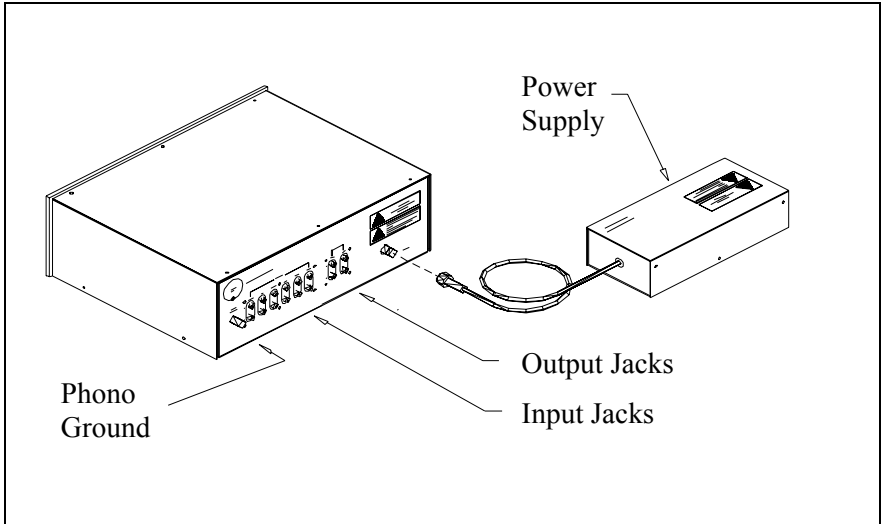
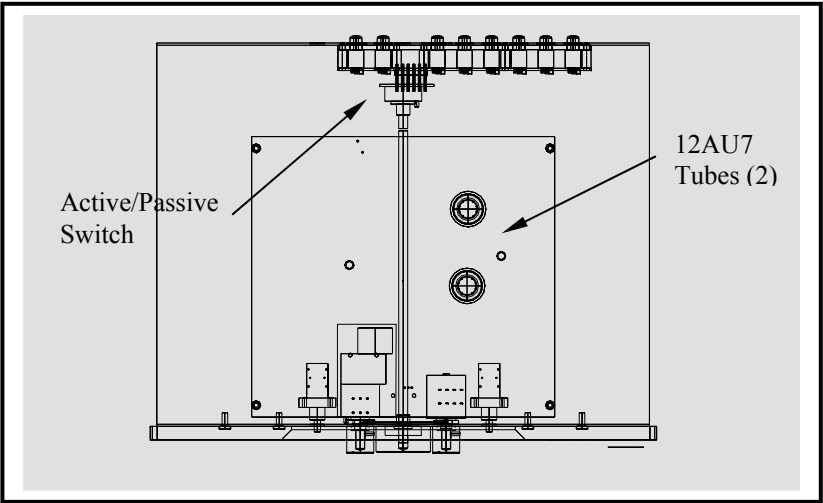

Figure 1
Figure 2 Sixty-Six LSR
- 2) *Connecting the power supply* - Carefully plug the black six pin connector coming from the power supply into the rear of the preamplifier. See Figure 1. Connect the IEC end of the detachable power cord to the power supply, and plug the opposite end into the wall outlet.
- 4) *Connections to other components* - Connections are shown in Figure 1. The input connections for source material (phonograph, CD player, tuner, tape recorder) are made via RCA auxiliary jacks are also available for line level sources (approximately 1 volt). A five way lug is also provided for grounding the turntable to the preamplifier. The outputs to the power amplifier and tape recorder are arranged to the right of the input jacks. The tape output (as shipped) is passive, however it can be configured as an active outputs for powering a subwoofer or second amplifier. To do so, remove the cover and find the two small black slide switches on the rear (RCA jack) circuit board. Refer to figures 2 and 3 for approximate locations of these switches. The two positions are labeled “A” for active and “P” for passive modes. Simple slide the two switches to the “A” position and the tape output will become active.
- 3) Obtain and insert a new set of tubes. It is recommended that a new set of tubes be obtained from Rogue. If tubes are obtained from another source, follow the diagram in figure 2 or 3 for tube type.
- 4) Insert new tubes in sockets using a glove or cloth. See figure 2 or 3 for locations.